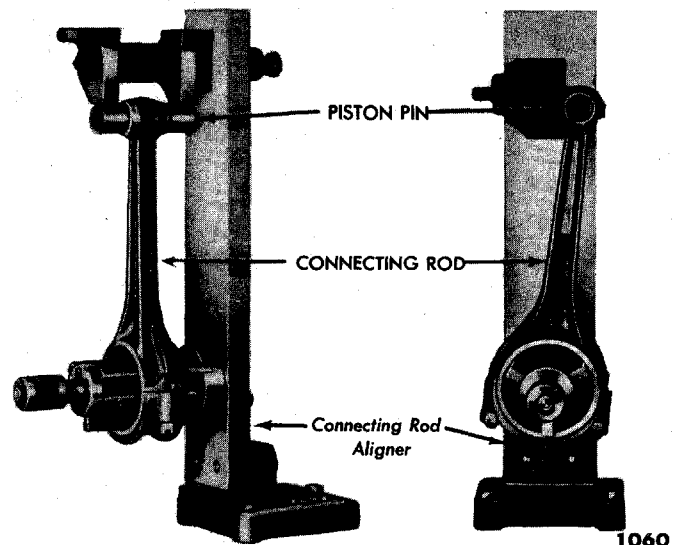

Fig. 53—Checking Connecting Rod Alignment
(1) **CONNECTING ROD.** If the rod has damaged studs, deep nicks, cracks, or scored bearing bores, it should be replaced. If the rod is twisted it should be replaced. Check the alignment of the rod on a fixture as shown in fig. 53.